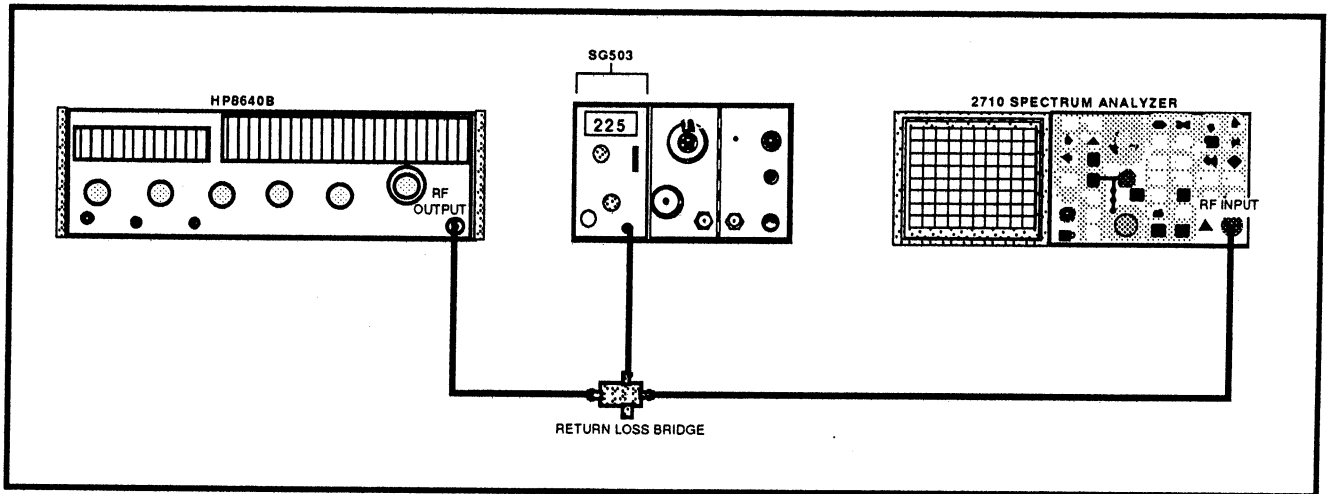

Figure 3-3. 1dB Compression Point Test
- a. Connect the test equipment as shown in Figure 3-3.